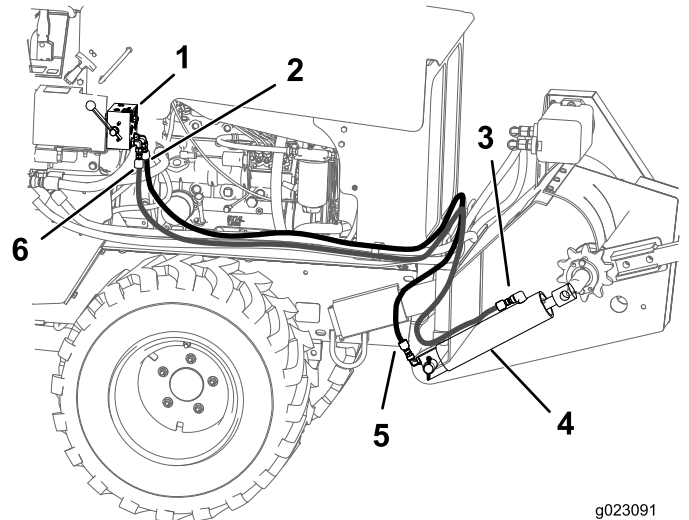

Figure 25
18. Connect the 88-inch hose to port C3 on the control valve, the bottom hole closest to the handle, to port A on the hydraulic cylinder assembly (Figure 25).
20. Connect the 80-inch hose to port C4 on the control valve, the bottom hole closed to the machine, to port B on the hydraulic cylinder assembly (Figure 25).